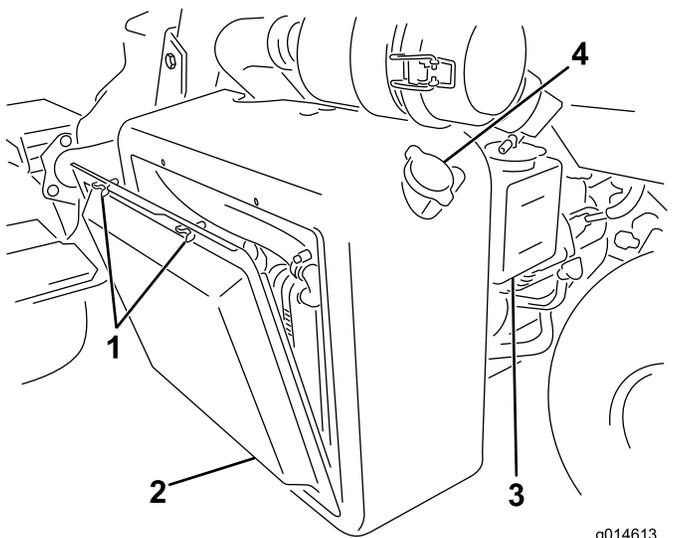

**Figure 29**
1. Clean around the fuel tank cap (Figure 29).